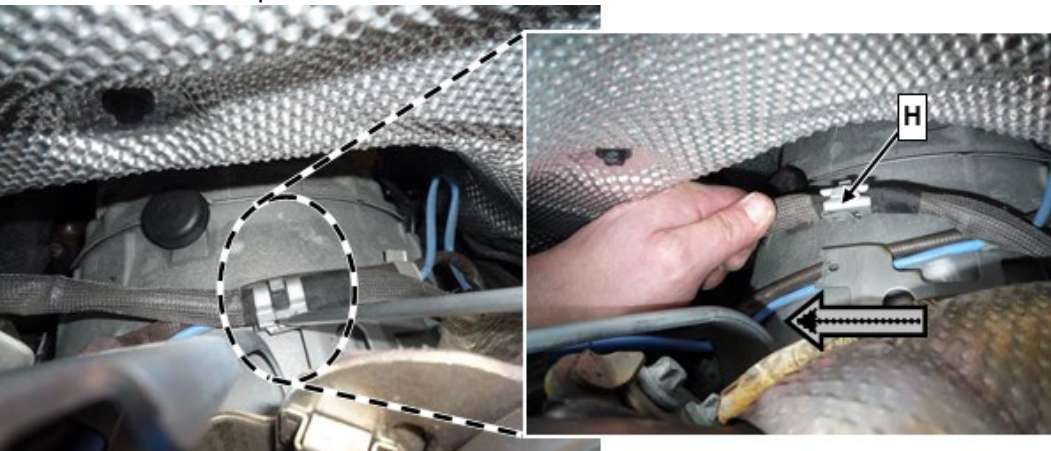

Figure 7
5. Release clamp (H, figure 7) at starter wiring harness from holder.